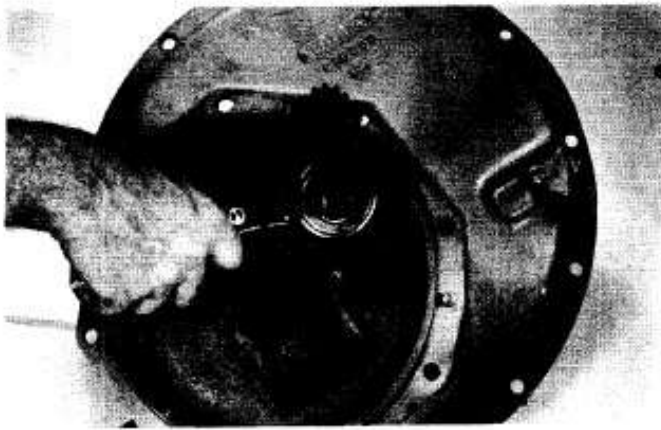

FIG. 16
20. REF. FIG. 16, INSTALL MAIN DRIVE SHAFT FRONT RETAINING RING ON SHAFT, INSTALL FRONT BEARING ON MAIN DRIVE SHAFT, INSTALL REAR RETAINING RING, PLACE DRIVE SHAFT INTO POSITION IN CLUTCH HOUSING.